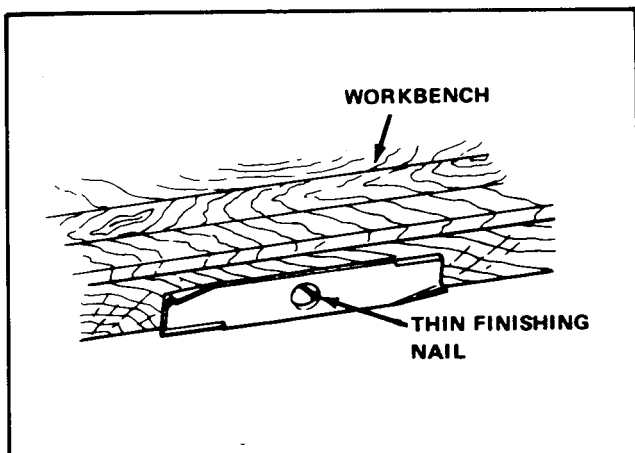

FIGURE 14 - Balance Blade
5. Balance the blade as shown in Figure 14. Center the blade's center hole on a nail lubricated with a drop of oil. A balanced blade will remain level.
6. Carefully clean the blades and arbors, See Figure 14-A. Before installing the blade, be sure that the self-locking ring is pushed up tight against the blade adaptor. Install the new or sharpened blade with the lift tabs toward the top on the arbor shaft. Install the spline washer, making sure that it is engaged on the splines of the arbor shaft. Install the cup washer with the concave side toward the blade and tighten the capscrew securely. Use a block or wedge to keep the blade from turning while tightening the capscrew. (A-Figure 15).